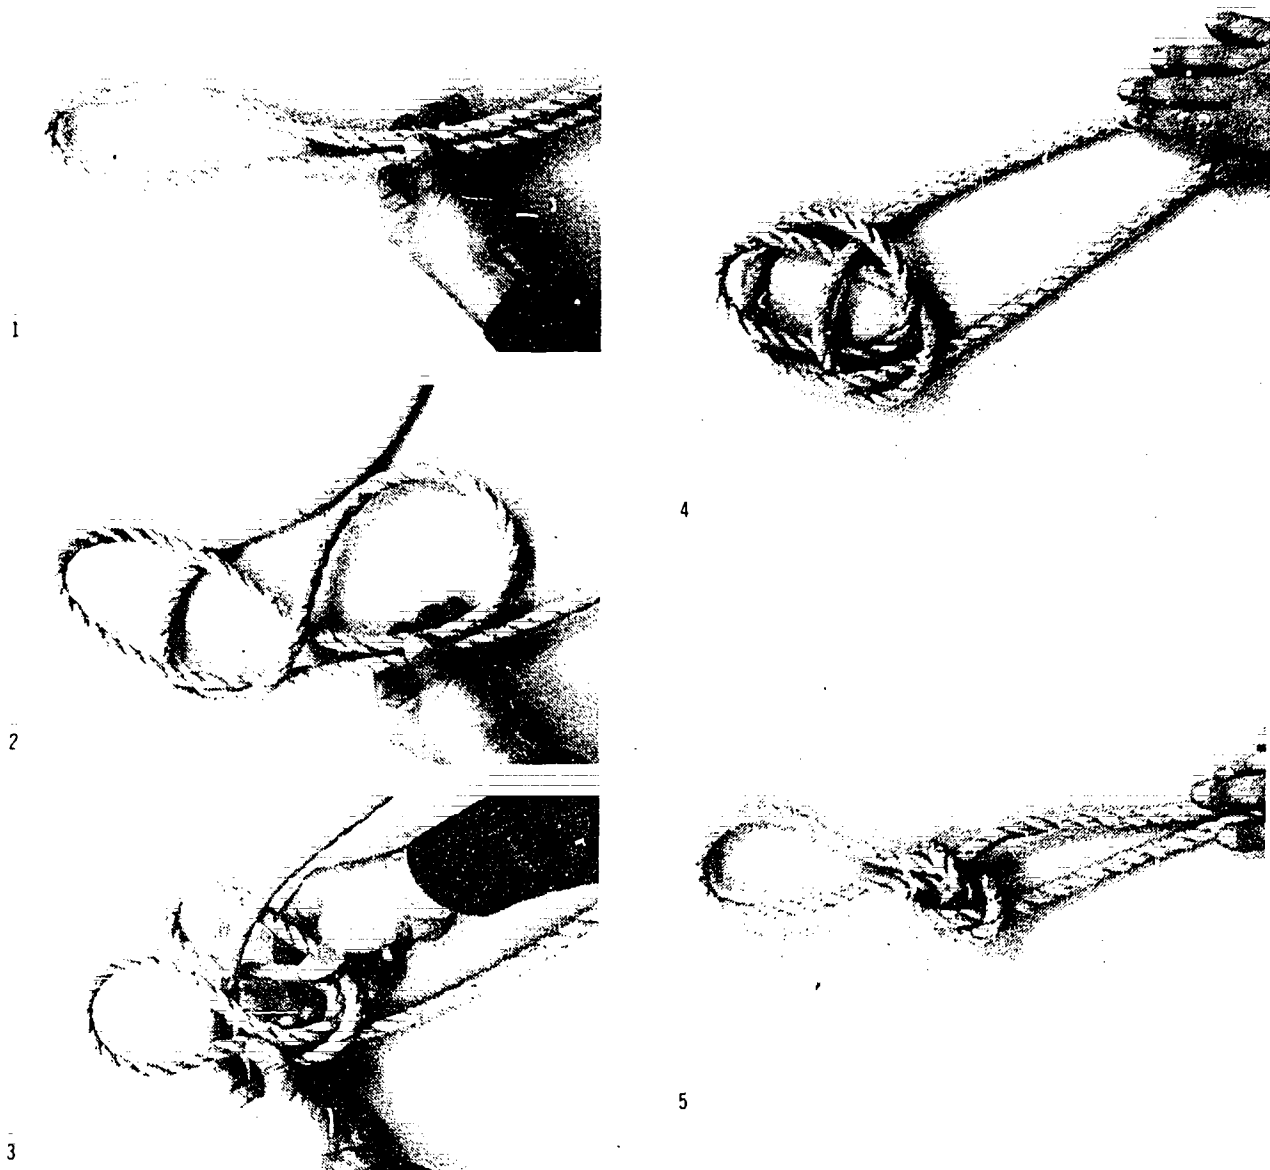

Figure 7-15. Tying a Harness Hitch
6. The **harness hitch** produces a loop in a line which will not slip. Figure 7-15 illustrates the steps in tying the harness hitch.